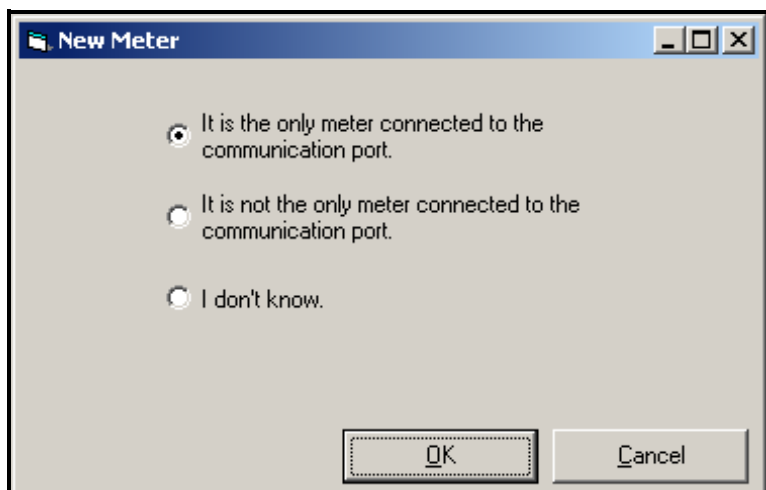

Figure 37: The Only Meter Dialog Box
6. After responding to the previous dialog box, the dialog box shown in Figure 37 appears. In most instances, users connect their PC to one instrument only via a direct serial cable. Therefore, select the *“It is the only meter connected to the communication port”* radio button and then click on the [OK] option button.